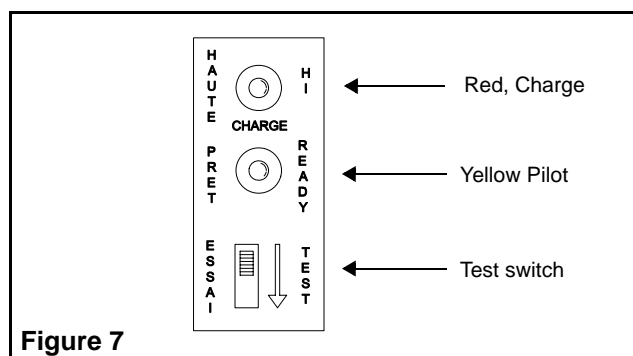

Figure 7
10. Energize AC circuit. Pilot lights will come on. Red indicates that the charger is on high charge. Yellow is an indication that the AC supply is present (see fig. 7). After the unit has reached full charge, it is normal for the red light to pulse on occasionally. However, if the red pilot light remains on for more than a week, it is an indication of a malfunction.
Press test switch (see fig. 7). Lights will illuminate, AC pilot lamp will extinguish. On release, pilot lamp will illuminate, lights will turn off, and the automatic charger will restore battery to full charge.